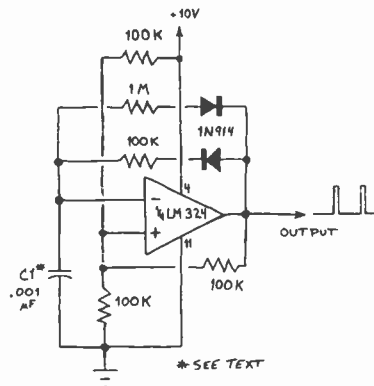
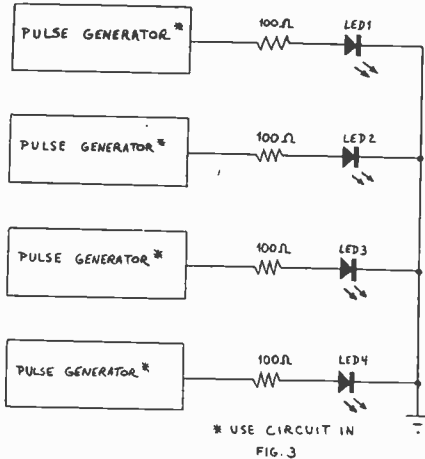

Fig. 3. Change  $C_1$  to vary pulses.
Fig. 5. Random LED flasher.
A somewhat more versatile pulse generator is shown in Fig. 3. The repetition rate of this circuit can be changed from one pulse every few minutes to 200 kHz by simply changing  $C_1$ . Here's a table of pulse parameters I measured with the prototype circuit:
The conventional pulse generator of Fig. 3 can also be used to experiment with applications like these:
3. A LED "random" flasher. See Fig. 5 for this variation of the circuit. For best results, use different values for the capacitors (C1 in Fig. 3) to provide different flash rates. These values should range from about 0.2 to 1.0  $\mu\text{F}$  so that the flashing will be discernable to the eye. Incidentally, you can house this circuit in a small plastic enclosure for permanent use as a novelty or attention-getting device.